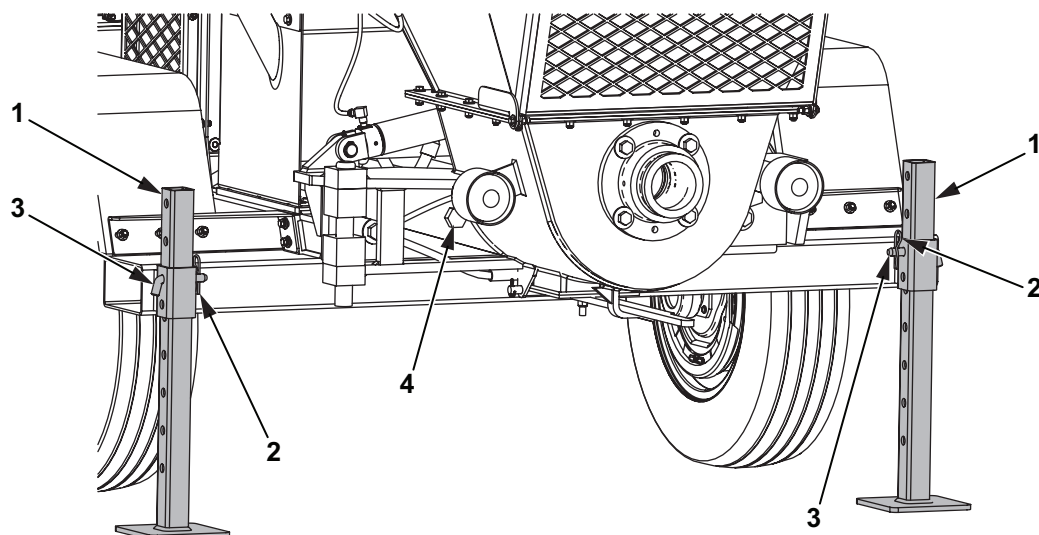

Figure 4 Rear View
1. While firmly holding left-hand outrigger leg (Figure 4, Item 1), remove hair pin (Figure 4, Item 2) and hitch pin (Figure 4, Item 3) from outrigger leg.
Ensure the one-inch retaining bolts that secure the hopper to the frame (Figure 4, Item 4) are tightened prior to operation. Failure to comply may result in personal injury or equipment damage.